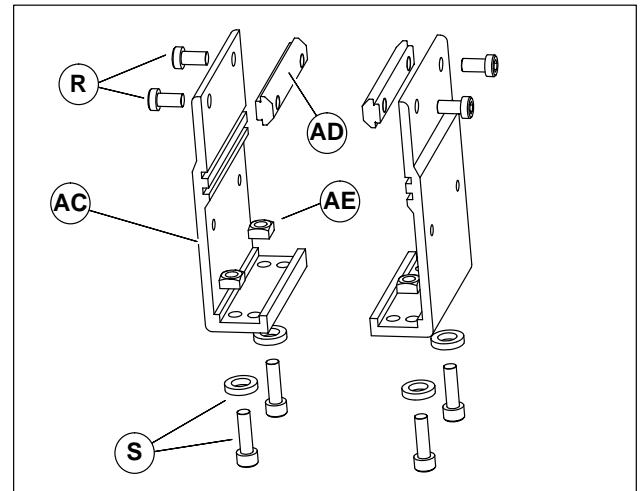
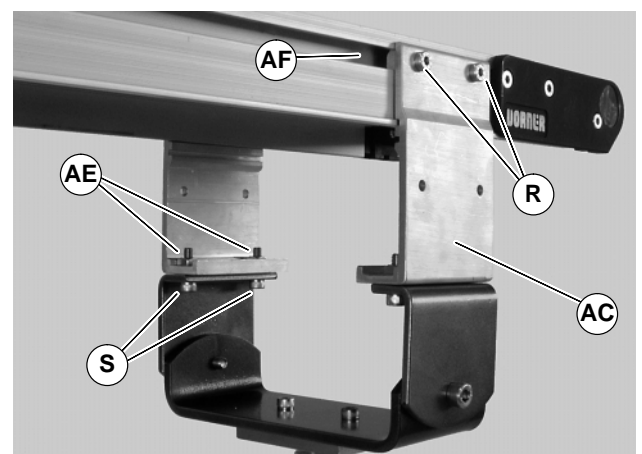

Figure 19
Figure 20
1. Gather components (Figure 19).
2. Remove screws (R & S of Figure 19), nuts (AE) and T-bars (AD) from brackets (AC).
3. Insert T-bars (AD of Figure 19) into conveyor side slots (AF of Figure 20). Fasten brackets (AC) to conveyor with mounting screws (R).
4. Fasten brackets to stand with mounting screws & washers (S of Figure 20) and nuts (AE).
5. Tighten screws (R & S of Figure 20) to 9 Nm.
4. Fasten brackets to stand with mounting screws (AO of Figure 20), washers and nuts (AR).
5. Tighten screws (AN & AO of Figure 20) to 9 Nm.